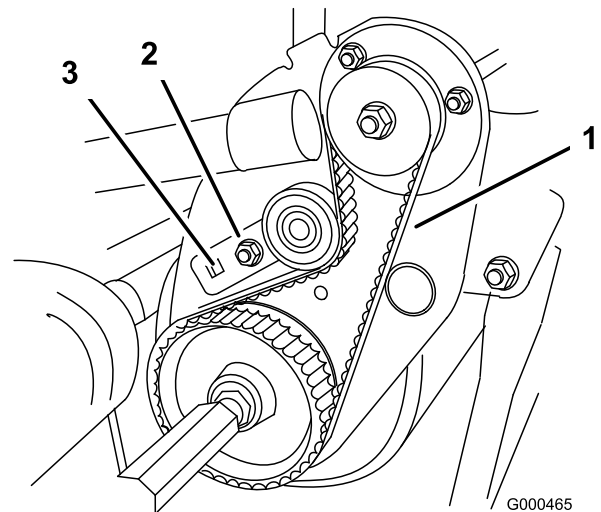

Figure 48
- B. Using a $3/8$ inch drive torque wrench, rotate the idler bracket with 75–85 in.-lb. of torque to set the belt tension (Figure 48). While holding the torque wrench setting, tighten the idler bracket mounting bolt (The tang washer is installed to prevent the belt from slipping). Do not over-tension the belt.